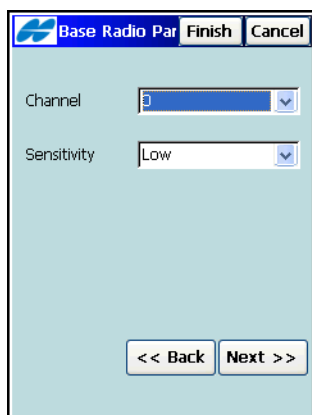

**Figure 4-10. Parameters for Digital UHF Modems**
- For Digital UHF modems (Internal GR-3 Digital UHF, Internal HiPer Digital UHF, TRL-2 and TRL-35 External Digital UHF), set the operation protocol and modulation type (Figure 4-10).